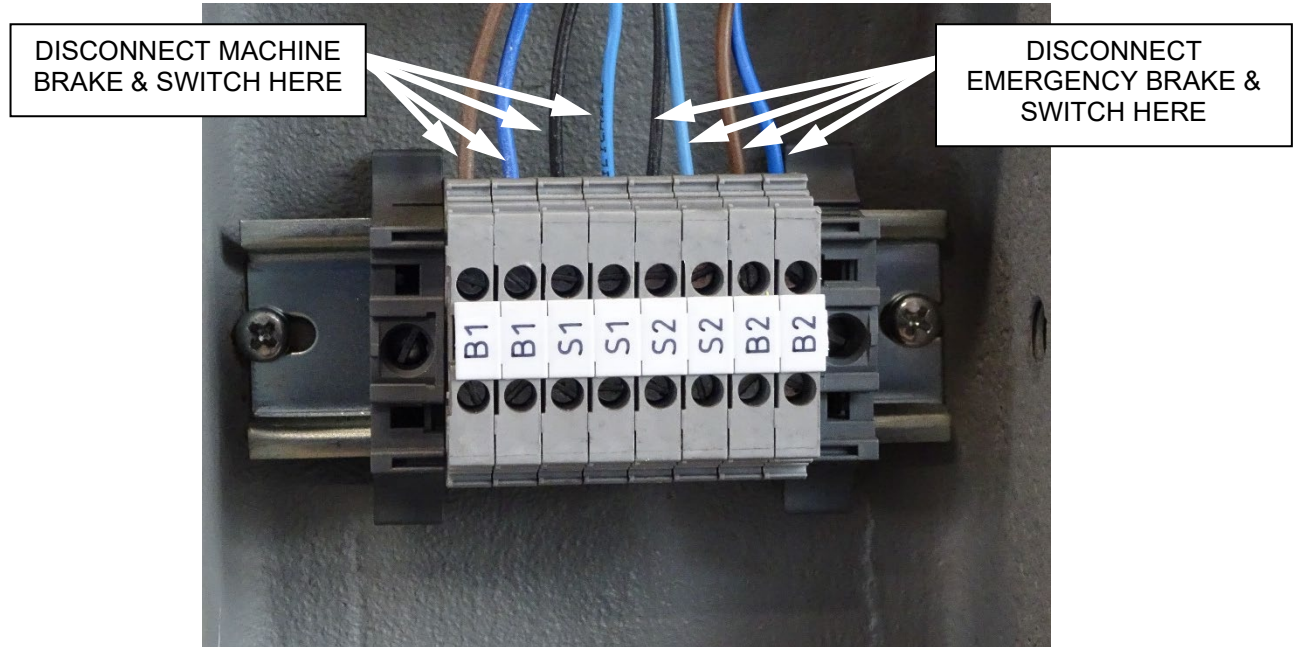

Figure 35
3. On the MACHINE side disconnect the Brake and Brake Switch wires for the brake that is to be worked on (Figure 35).